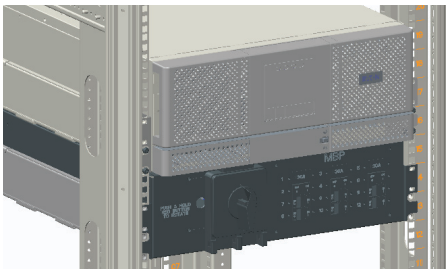

Figure 7. Secure the BPM to the Rack
10. Push the BPM into the rack and secure the mounting ears to the rack using the provided screws (see Figure 7).